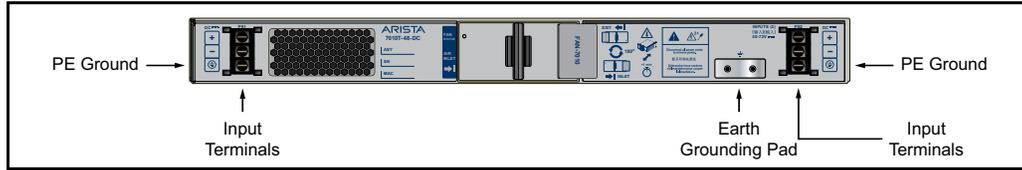

Figure 7: DC Input Terminals and DC Grounding Pad
Figure 7 displays the location of the earth grounding pad and the DC input terminals.
Step 1 Attach the secondary grounding pad to the Data Center ground (Figure 7).